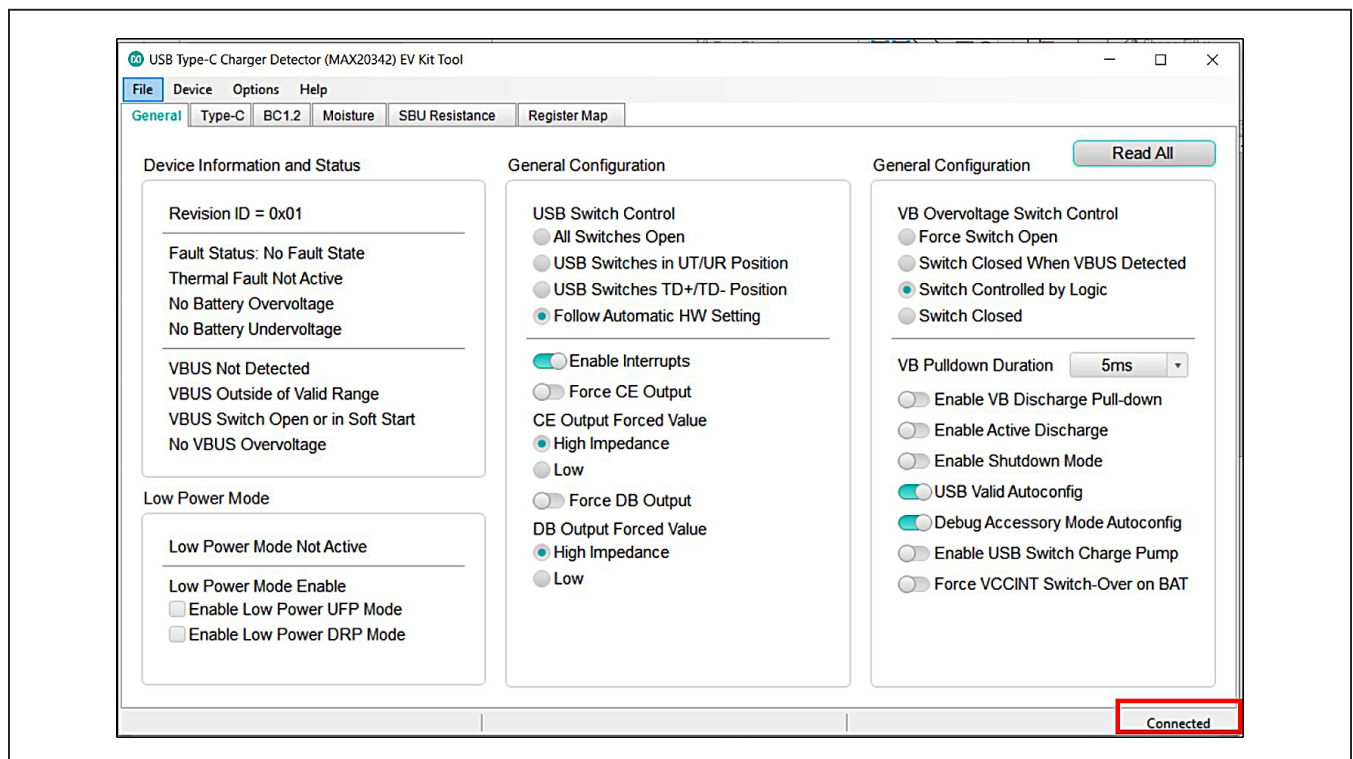

Figure 1. The Status of the GUI Shows Connected Ready for Further Evaluation
- 7) Start the MAX20342 EV Kit tool. The EV kit software main window appears, as shown in Figure 1.